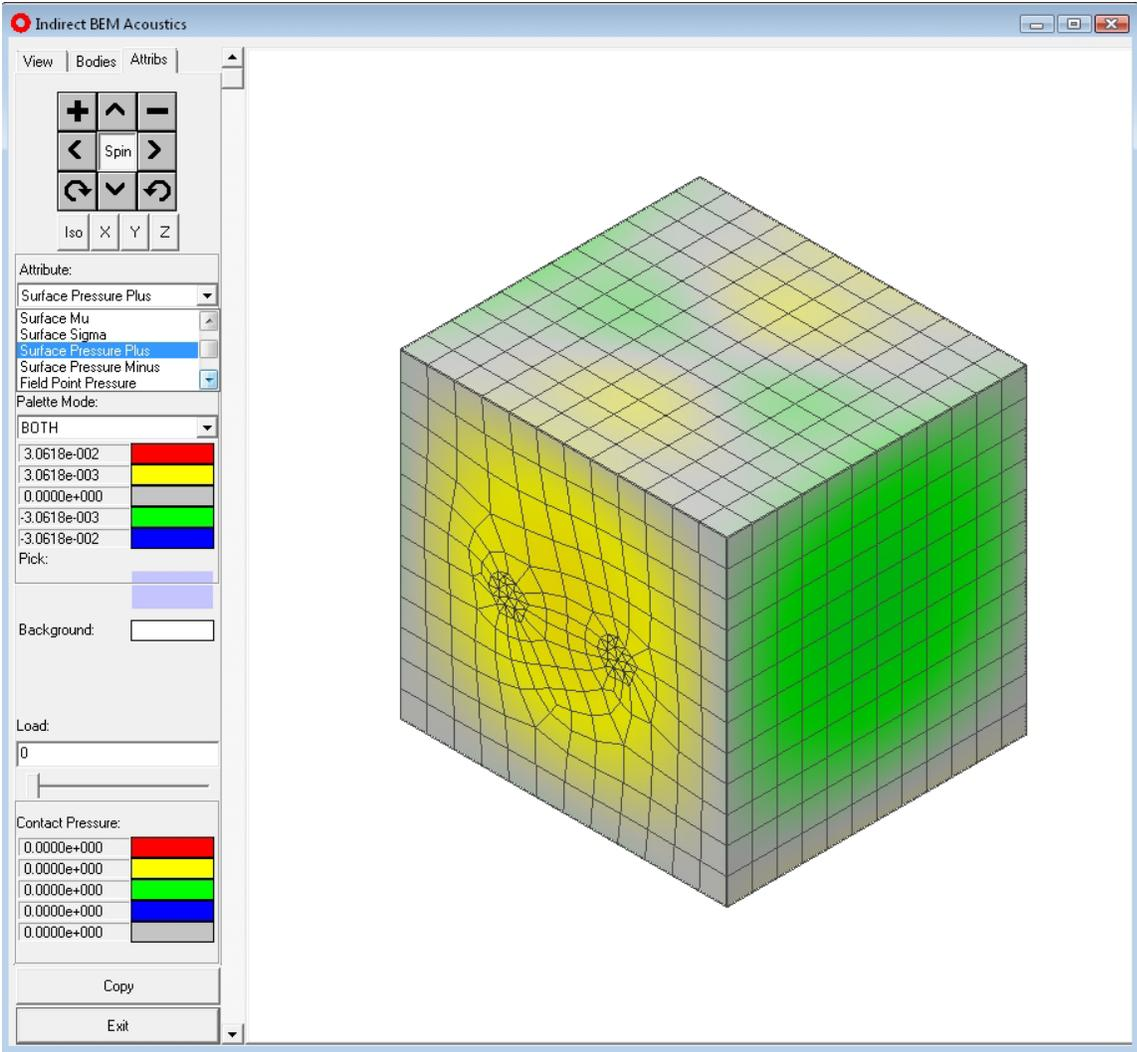

Figure A.48 IGlass viewer showing sound pressure distribution on the exterior surface of the housing at 760 Hz.
**A.5.3.4. *iglass.cgl*** *IGlass* files are post-processing data files created by Coustyx to visualize the acoustic analysis results. Refer to Figure A.48.